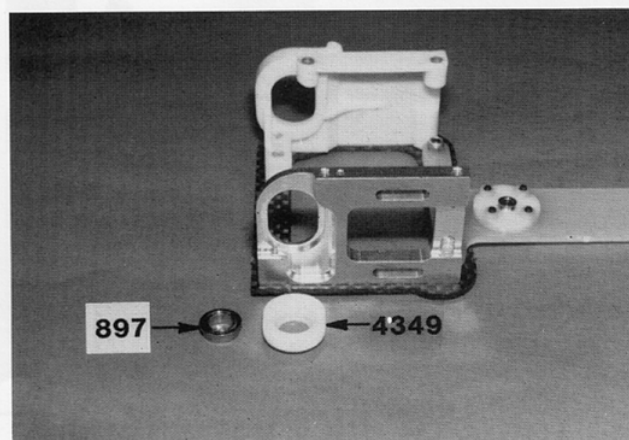

Fig. 24
□ **Figs. 24 & 25**—Take the #4349 plastic axle bearing height adaptors, the ones with the ball bearing holes centered in the adaptor, and install the adaptors in the left hand and right hand bulkheads, as shown. Now install a #897 ball bearing in each adaptor.